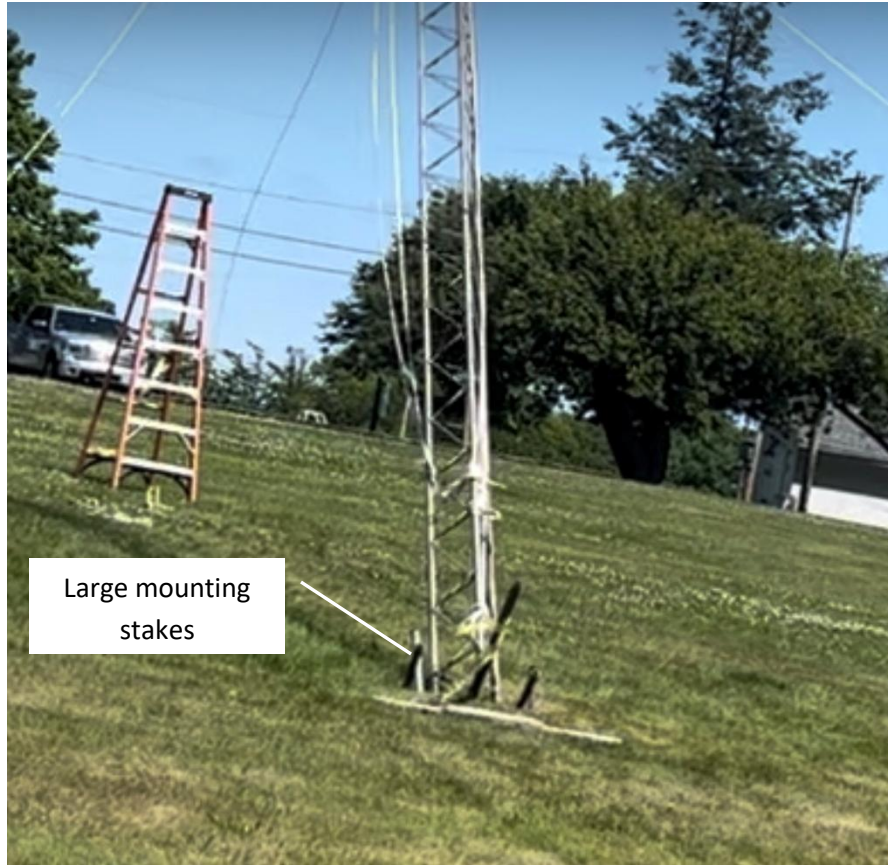

Figure 6 Large Pipe Tower Base Installation: Large pipe antenna base located 385 feet from the BWS on the Reference line using large crossed stakes.
- **The Large Pipe Tower Base is used on the GOTA tower** and is installed in a similar manner to the small pipe bases except that the weight of the base requires more labor to move it into position and should have longer and thicker "X" stakes for the ground mounting. See Figure 6